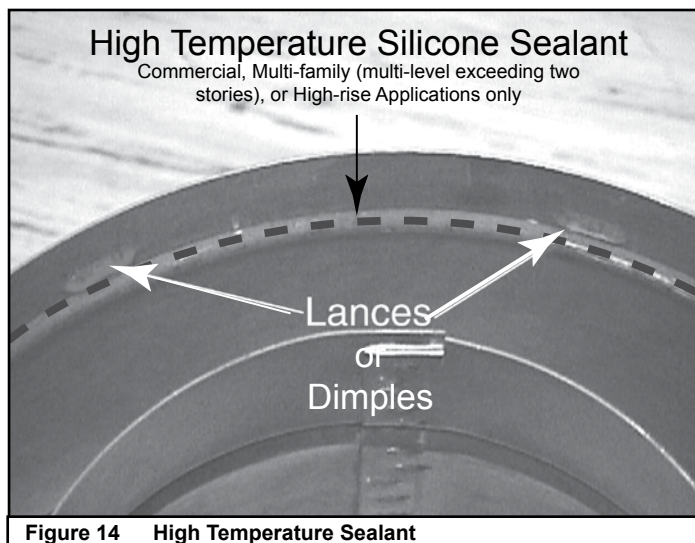

Figure 14 High Temperature Sealant
- Apply a bead of silicone sealant inside the female outer pipe joint prior to joining sections. See Figure 14.